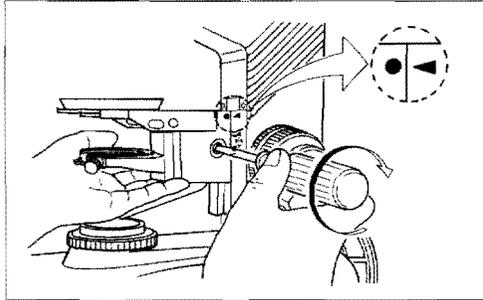

Fig. 2-6
④ Make Sure of the Position of the Substage
- Make sure that the white ● mark on the substage side lines up with the white ◀ mark on the microscope stand side (Fig. 2-6).